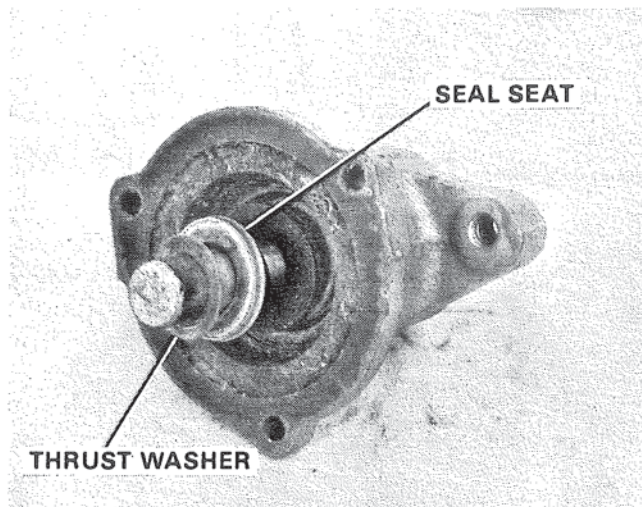

Figure 4. Removing Seal Seat.
C. Remove thrust washer seal seat. Figure 4.